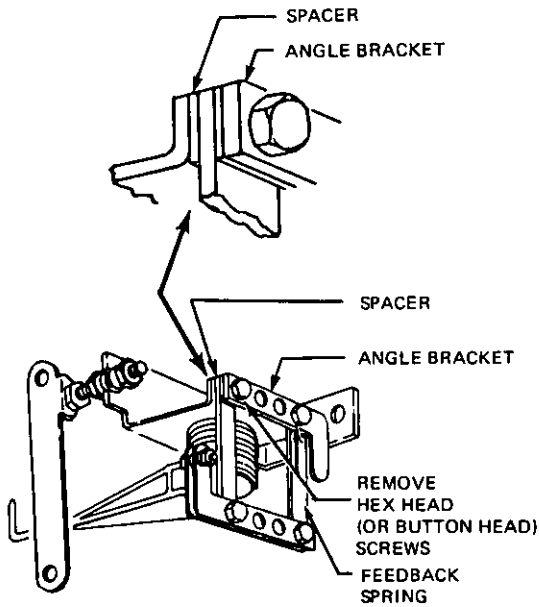

Figure 8
5. On feedback assembly, remove two hex head (formerly button head) screws. See Figure 8.
6. Interchange location of angle bracket and spacer. See Figure 8.
Figure 8 shows parts in INC-INC arrangement.